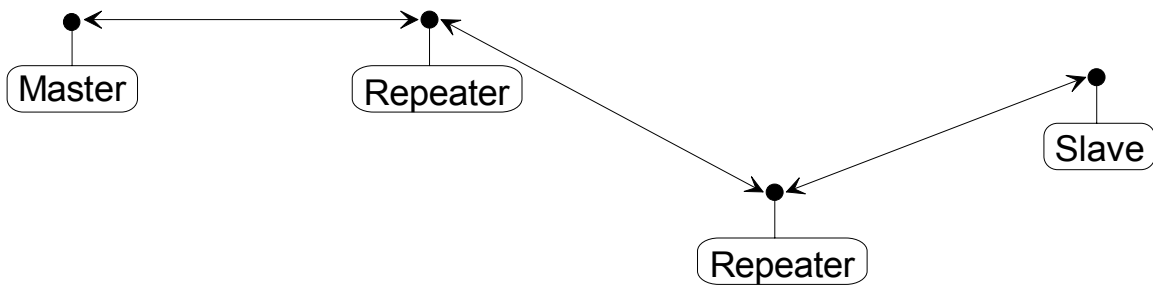

Figure 16-3: Point-to-Point with two Repeaters
**Figure 16-3** shows a link with two repeaters between the master and slave. With two repeaters there is clearly more flexibility in getting around obstacles and greater total range is possible. Once again, it would be desirable to use external omni directional antennas with the repeaters, and attaching a Yagi to the master and slave would increase the range of the link.